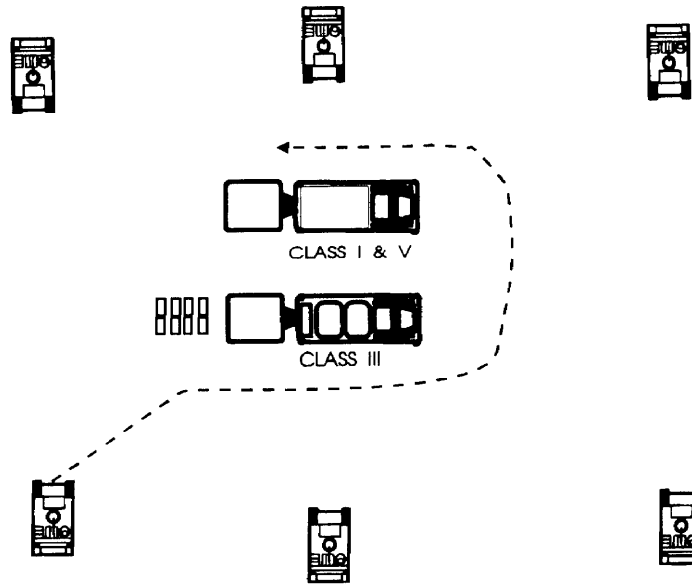

Figure 8-1. Service-Station Resupply.
**Service-Station Resupply.** The LOGPAC or support squad establishes a resupply point. Each vehicle in the platoon then moves to the resupply point. All resupply activities occur at the resupply point. (See figure 8-1.)